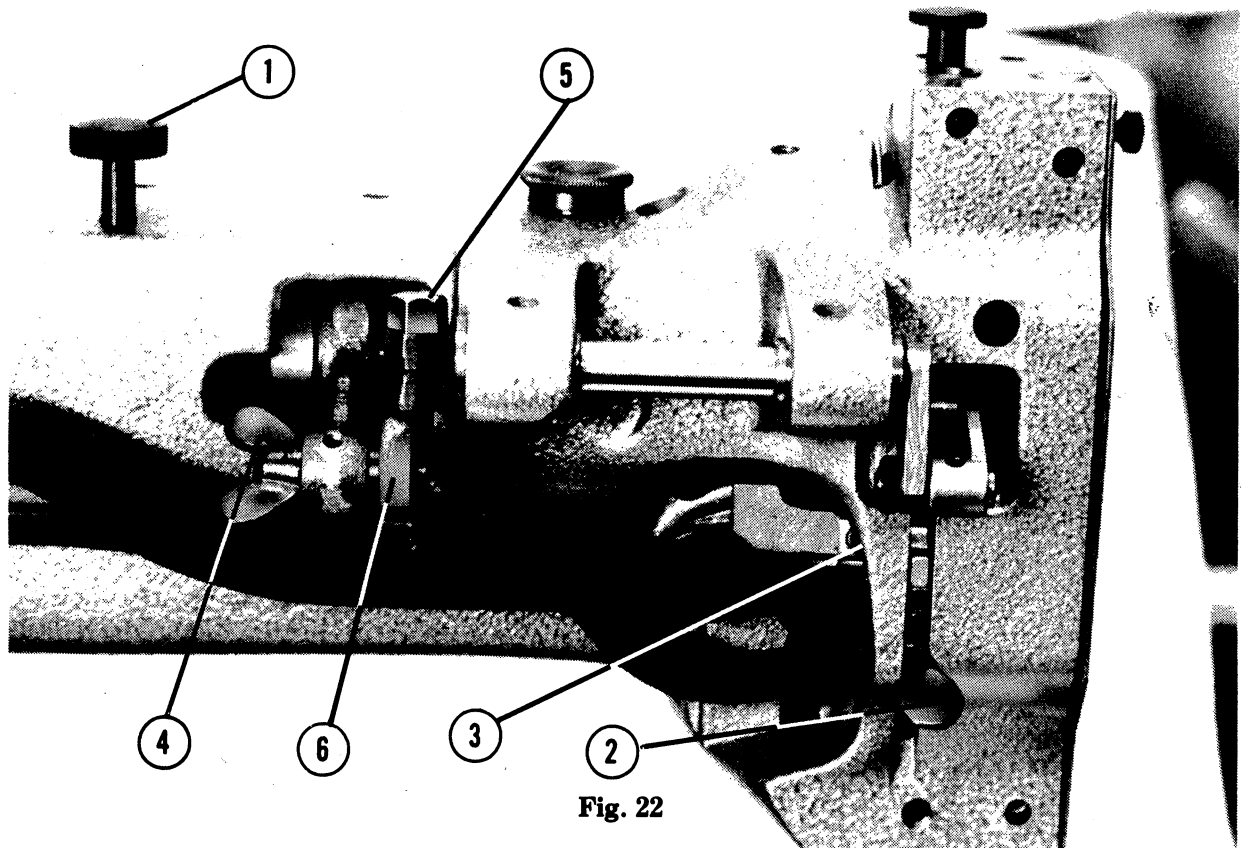

Fig. 22
The maximum obtainable vertical clearance between the outer presser foot and the throat plate is  $23/64$ " (9.1mm). To adjust for this clearance, reduce the pressure of the presser foot spring by loosening screw (1, Fig. 22). Note that this screw can be either a screw with a large knurled head or a headless screw submerged in the arm of the machine. Then raise presser foot with presser foot lifter (2, Fig. 22) and loosen clamp screw (3) on lifting collar. Adjust presser bar vertically to obtain clearance as indicated above.
Recheck adjustment and regulate the presser foot pressure by tightening screw (1, Fig. 22).
If the lift of the outer presser foot should have been changed, the rise of the center presser foot must likewise be readjusted. For this purpose, raise the presser bar lifter (2, Fig. 22), turn hand-wheel and observe the rise and descent of the center presser foot, which should be about equal above and below the outside presser foot. To adjust, place stud with wing nut (4, Fig. 22) so that it is centered within its slot, then loosen hexagon screw (5) just carefully to allow arm (6) with its